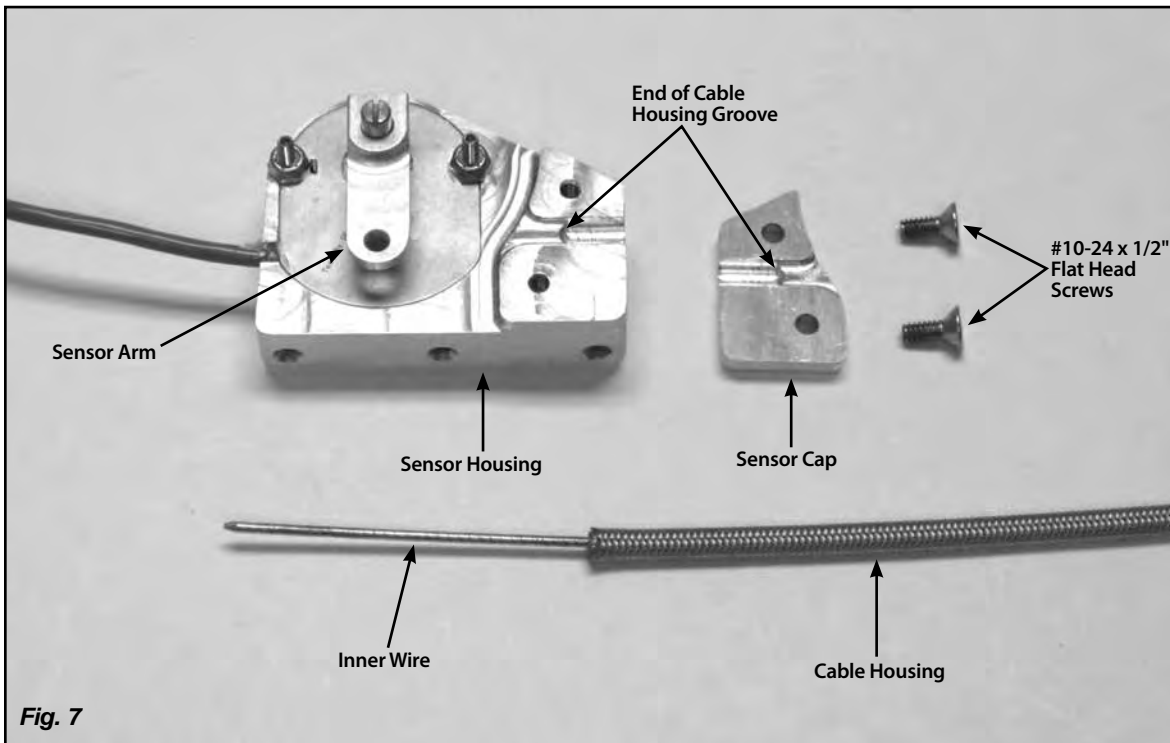
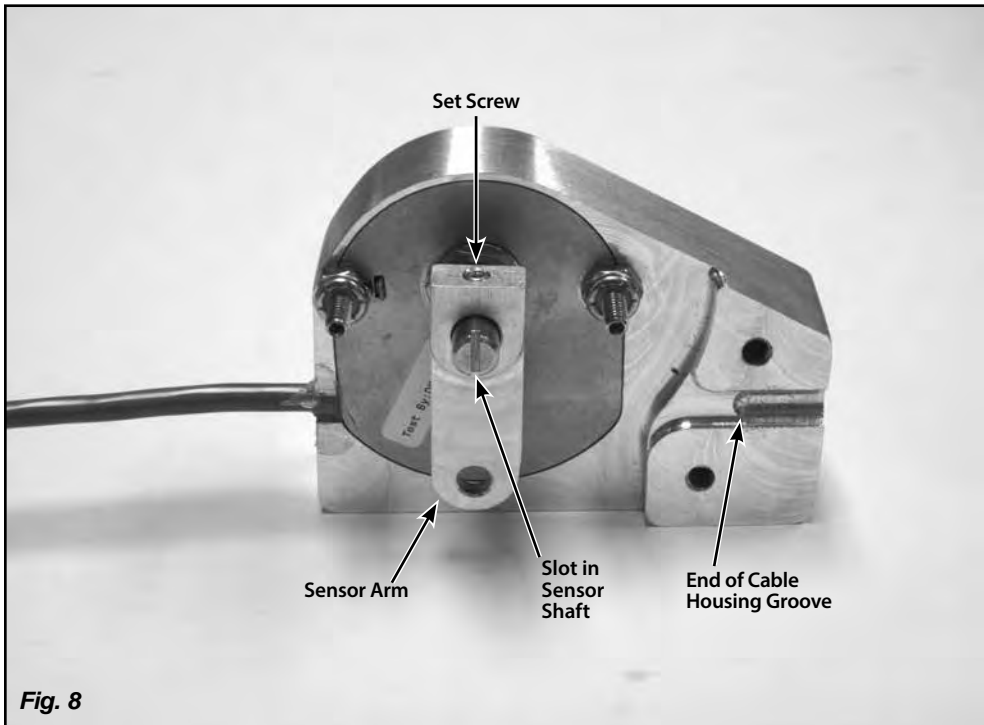

Fig. 7
Fig. 8
**Step 2:** Remove the sensor cap by removing the two #10-24 x 1/2" flat head screws using a 1/8" Allen wrench, and separate the cable housing from the sensor. **Fig. 7**
**Step 3:** Make sure the sensor arm is parallel to the slot in the sensor shaft, with the set screw in the top of the sensor arm aligned with the slot. If it is not, loosen the set screw in the top of the sensor arm using a 1/16" Allen wrench, and adjust the position of the sensor arm on the shaft. **Fig. 8**
There is a groove in the sensor housing that the end of the cable housing fits in to. Mark the cable housing at the end of the cable housing groove. Remove the cable housing from the adjustable cable mounting bracket. **Fig. 7 and Fig. 8**